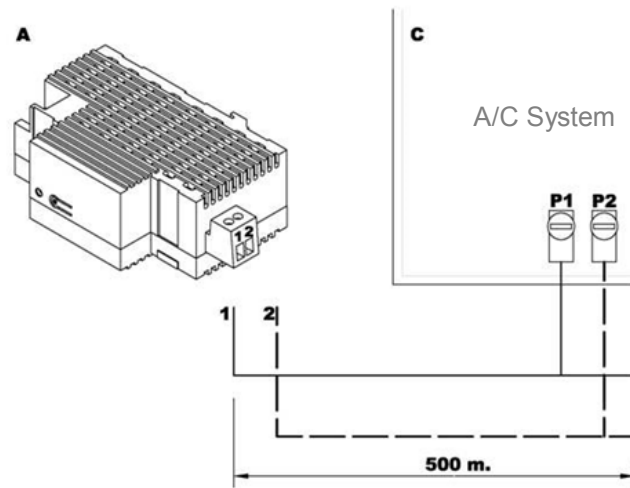

Figure 3. Connecting KLIC-DI to the P1/P2 Bus (Master Mode).
KLIC-DI connects to the KNX bus via the corresponding built-in terminals (1). On the other hand, this device is connected to the internal PCB board of the A/C unit (P1/P2 connectors), using a 2-wire cable. See Figure 3.